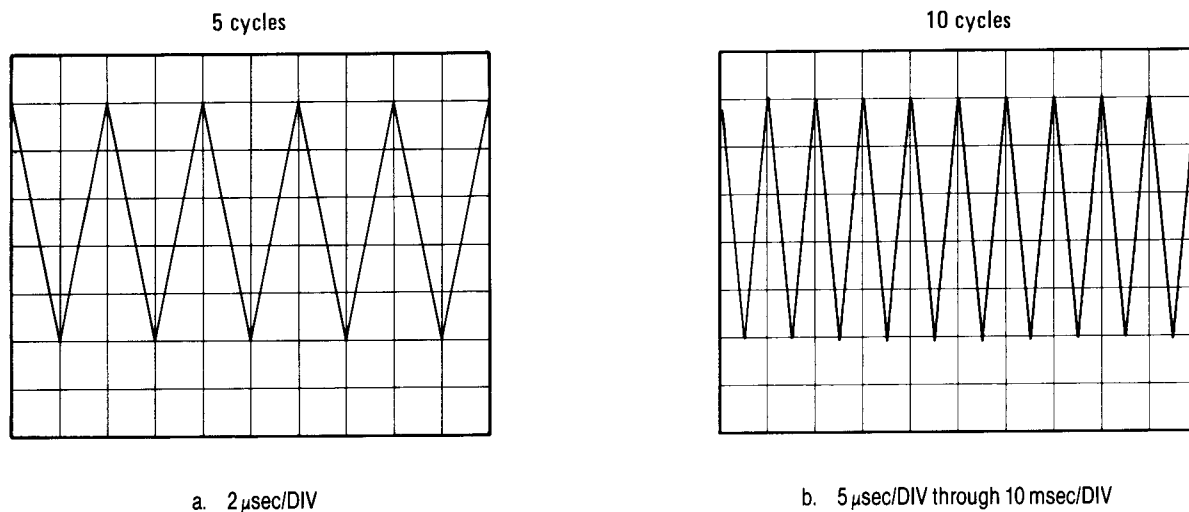

FIGURE 4-20. SWEEP TIME ACCURACY
1. Connect spectrum analyzer CAL OUTPUT to frequency counter's 10 Hz – 500 MHz (50Ω) input as shown in Figure 4-20. Measured output frequency should be $35 \text{ MHz} \pm 400 \text{ kHz}$.